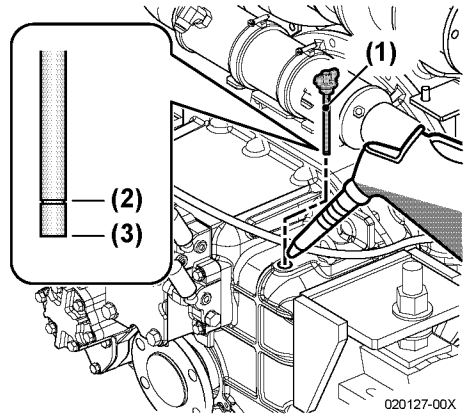

Figure 9
2. NOTICE: *Prevent dirt and debris from contaminating the marine gear oil. Carefully clean the filler cap / dipstick and the surrounding area before you remove the filler cap / dipstick.* Remove filler cap / dipstick (**Figure 9, (1)**) and wipe with clean cloth.
4. Remove dipstick. The oil level should be between upper (**Figure 9, (2)**) and lower (**Figure 9, (3)**) lines on the dipstick. *NOTICE: ALWAYS keep the marine gear oil level between the upper and lower lines on the dipstick.*
2. Remove the filler cap / dipstick (**Figure 9, (1)**) at the top of the housing.
3. Fill with oil to the upper limit on the dipstick (**Figure 9, (2)**). *See Marine Gear Oil Specifications on page 40 . NOTICE: NEVER overfill the marine gear with oil.*